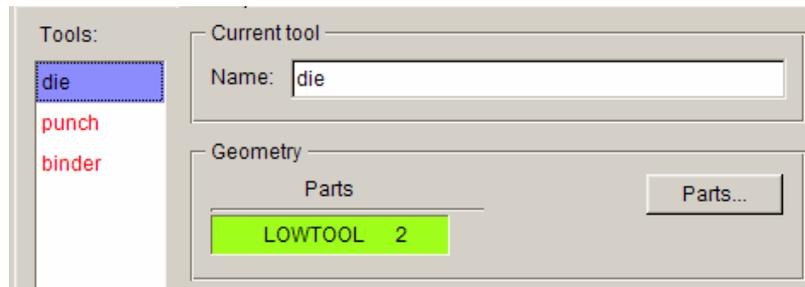

Figure 77: Tools definition page
8. Click **EXIT** button to return to **Tools** definition page. You notice the tag color of **die** is changed from red to black, as illustrated in Figure 77.
9. Click **punch** located at the left side of tools list to display **punch** definition page. See Figure 77.